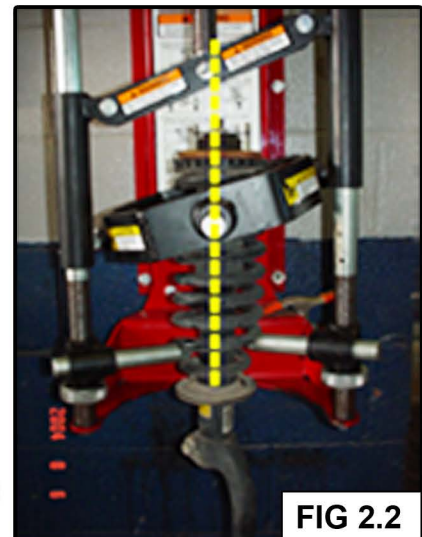

FIG 2.2
7. Mark exact orientation of upper strut mounting studs prior to removal of strut-mount. (Fig 2.2)